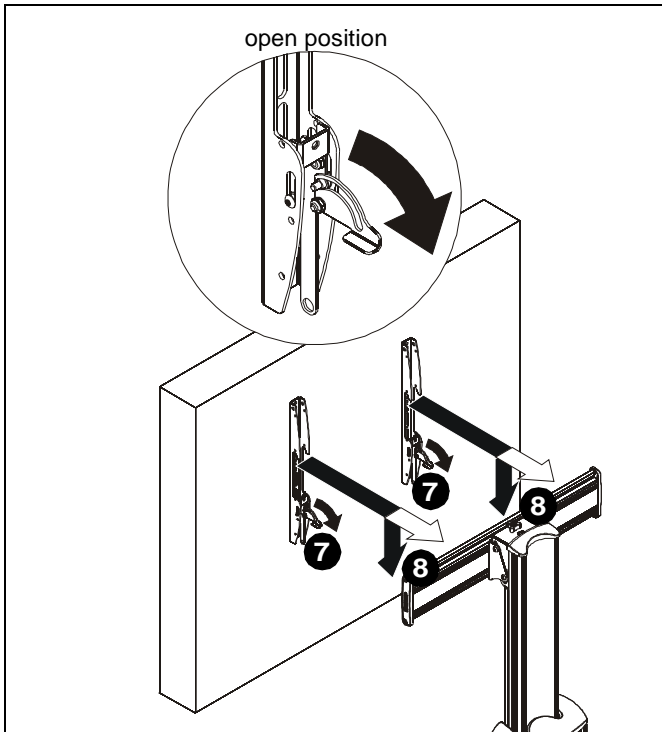

Figure 5
7. Position latches on interface uprights so that they are in the "open" position. (See Figure 5)
8. Hang interface uprights (B) on interface head assembly (E). (See Figure 5)